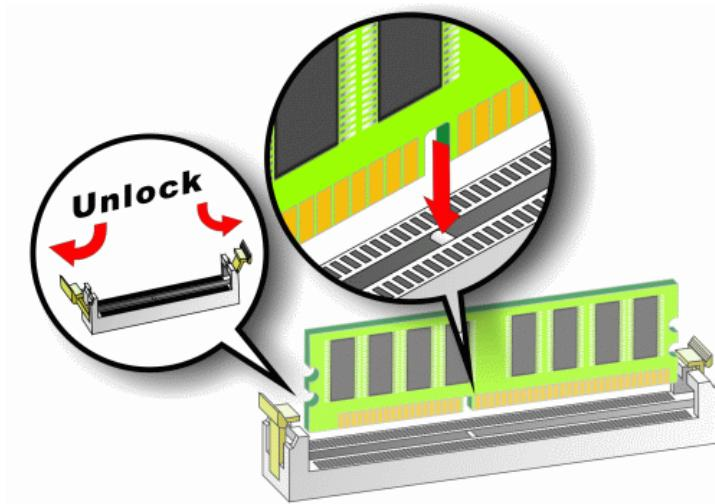

Figure 5-7: Installing a DIMM
To install a DIMM into a DIMM socket, please follow the steps below and refer to **Figure 5-7**.
Step 1: Open the DIMM socket handles. The DIMM socket has two handles that secure the DIMM into the socket. Before the DIMM can be inserted into the socket, the handles must be opened. See **Figure 5-7**.
Step 2: Align the DIMM with the socket. The DIMM must be oriented in such a way that the notch in the middle of the DIMM must be aligned with the plastic bridge in the socket. See **Figure 5-7**.
Step 3: Insert the DIMM. Once properly aligned, the DIMM can be inserted into the socket. As the DIMM is inserted, the white handles on the side of the socket will close automatically and secure the DIMM to the socket. See **Figure 5-7**.